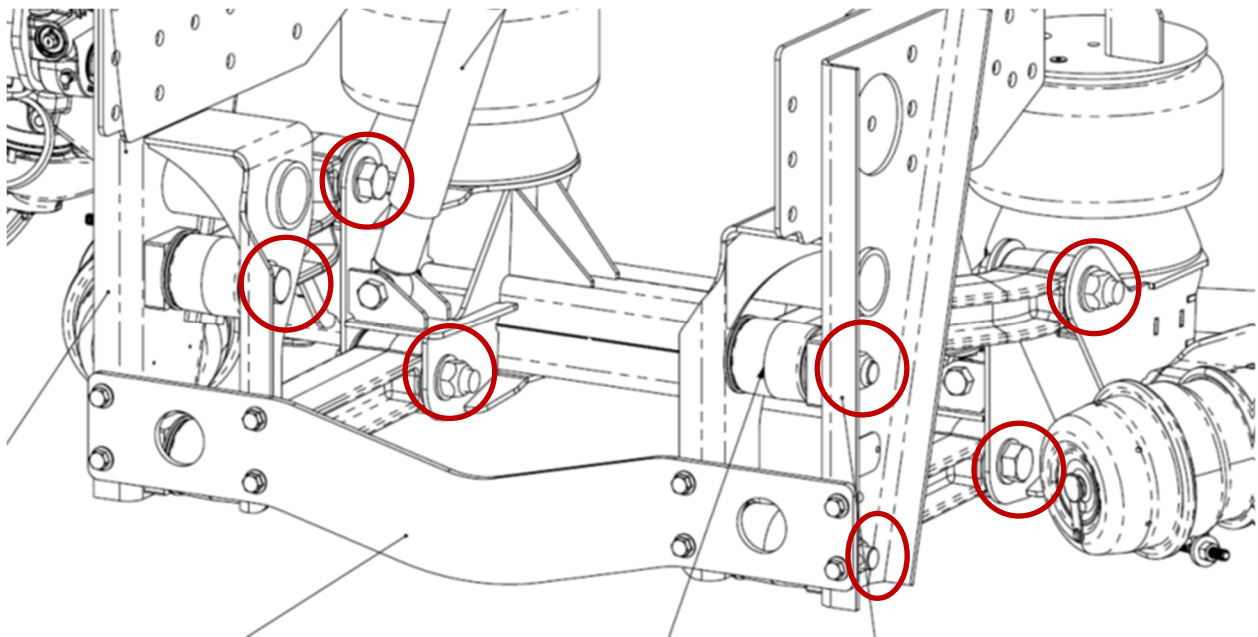

Figure 1
1. Referring to Figure 1, from the nut side of the eight (8) fasteners, torque the fastener to 700 lbs ft, +/- 25 lbs ft.
2. If the nut side of the fastener is not accessible, torque the bolt side of the eight (8) fasteners to 770 lbs ft, +/- 25 lbs ft.